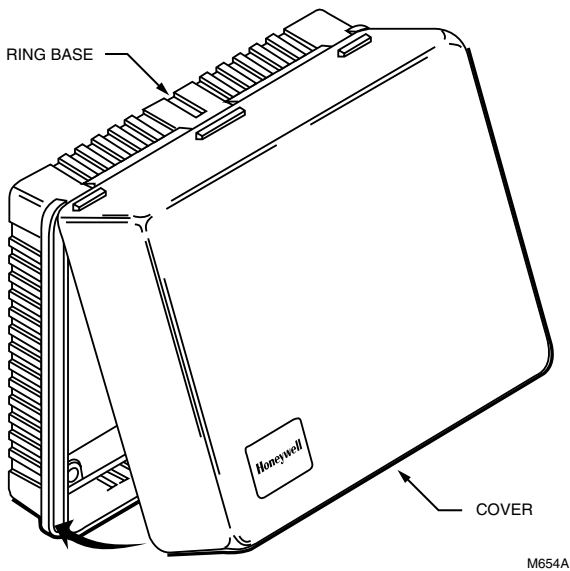
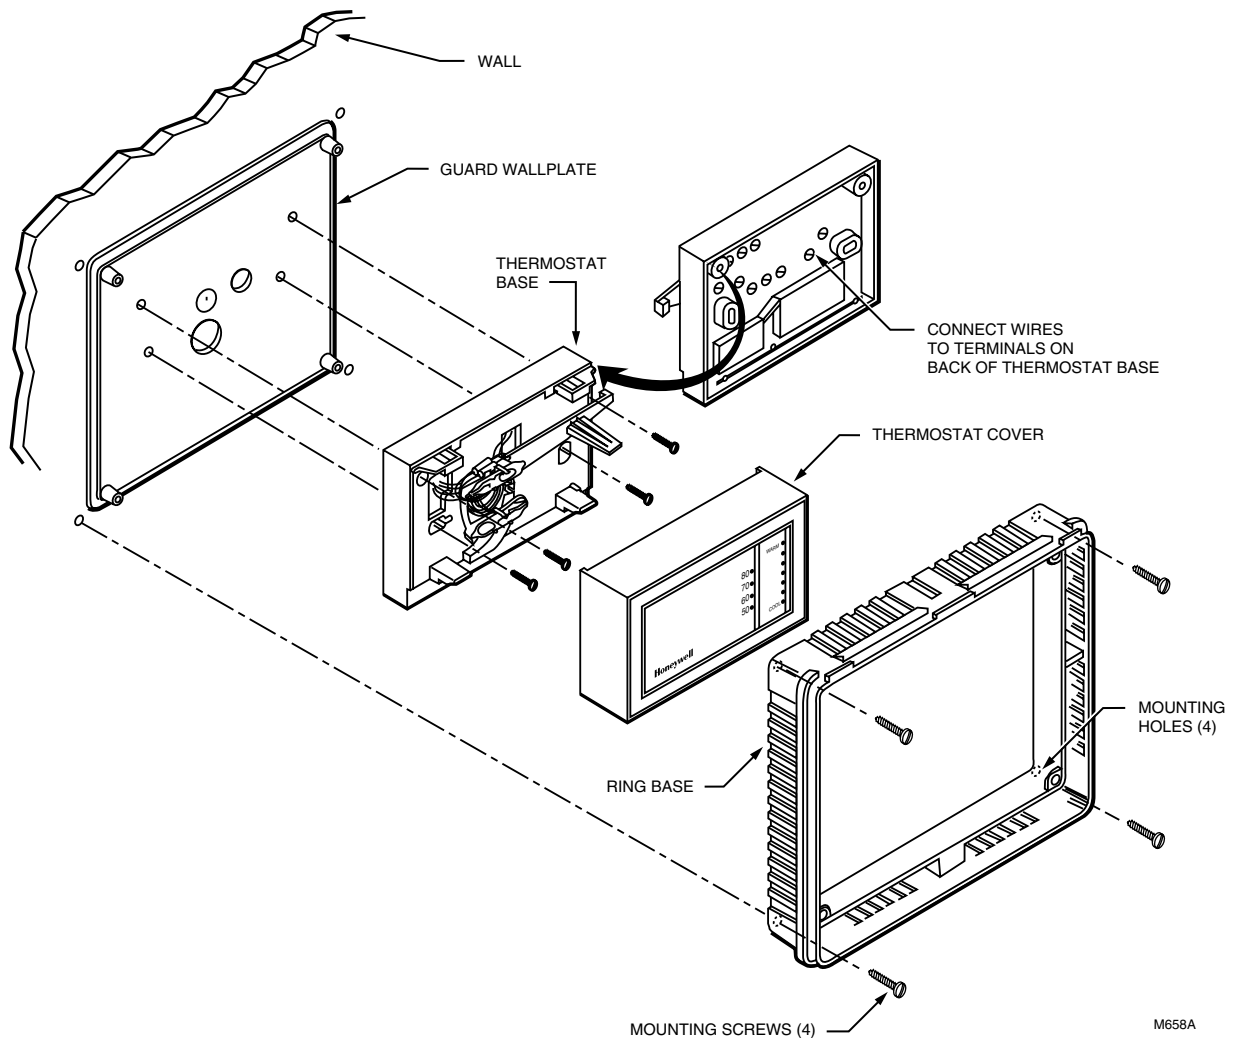

Fig. 7. Mount guard cover (TG510, TG511, TG512 shown).
Fig. 11. Mount guard wallplate and ring base on back-wired thermostat.
- 5 Mount the guard cover by placing the hinged edge of the guard cover on the ring base and swinging it down (horizontal mounting) or to the side (vertical mounting) until the guard cover is in place against the ring base. See Fig. 7.
- 9 Mount the guard cover by placing the hinged edge of the guard cover on the ring base and swinging it down (horizontal mounting) or to the side (vertical mounting) until the thermostat guard is in place against the ring base. See Fig. 7.
Back-wired Thermostat (Fig. 11)
- ❹ Mount the smooth side of the guard wallplate facing the thermostat and run the system wires through the wiring hole in the guard wallplate. The guard wallplate must be placed between the thermostat and the wall. See Fig. 11.
- ❺ Back-wire the thermostat. Refer to the instructions provided with the thermostat.
- ❻ Mount the thermostat and the guard wallplate to the wall using the 1-1/4 in. sheet metal screws provided with the thermostat. Make sure the guard wallplate is placed between the thermostat and the wall.
- ❼ Place the thermostat cover on the thermostat.
- ❽ Mount the guard ring base over the thermostat and the guard wallplate.
- ❾ Attach the ring base using four 1-1/4 in. sheet metal screws or four anchors and screws (provided).
- ❿ Mount the guard cover by placing the hinged edge of the guard cover on the ring base and swinging it down (horizontal mounting) or to the side (vertical mounting) until the guard cover snaps into place against the ring base. See Fig. 7.
- ❸ Wire the back-wired subbase. Refer to the instructions provided with the thermostat.
- ❹ Mount the thermostat subbase (wallplate) and the ring base with the guard wallplate to the junction box using the 1-1/4 in. sheet metal screws provided.
- ❺ Wire the front-wired subbase (wallplate). Refer to the instructions provided with the thermostat.
- ❻ Mount the thermostat on the subbase (wallplate).
- ❽ Mount the guard cover by placing the hinged edge of the guard cover on the ring base and swinging it down until the guard cover is in place against the ring base. See Fig. 7.